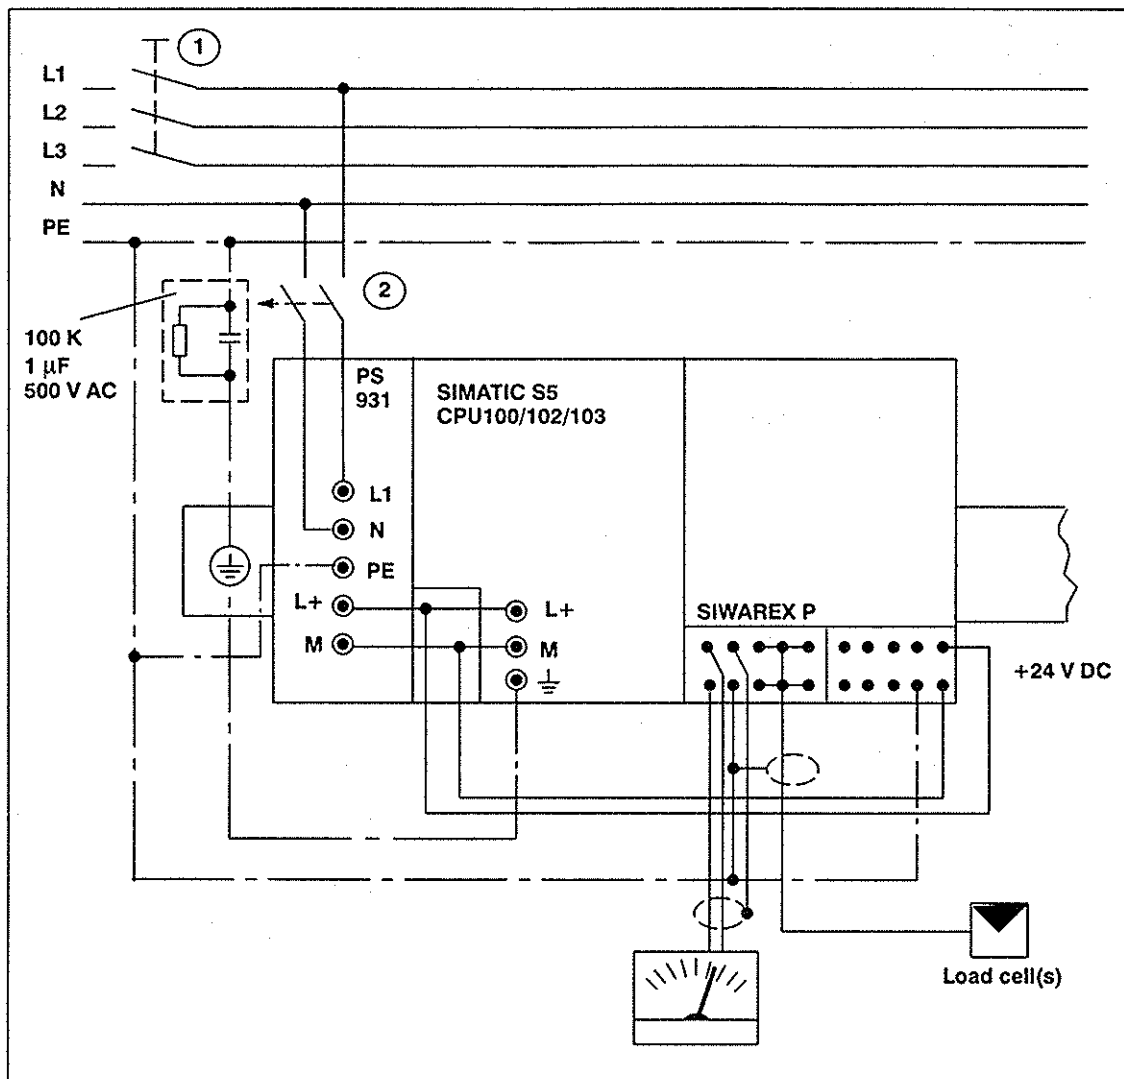

Figure 1.9 SIWAREX P with SIMATIC S5-100U (ungrounded)
- c) For ungrounded operation (figure 1.9), the standard rail of the programmable controller must be capacitively connected with the protective conductor (i.e., diversion of high-frequency interference).